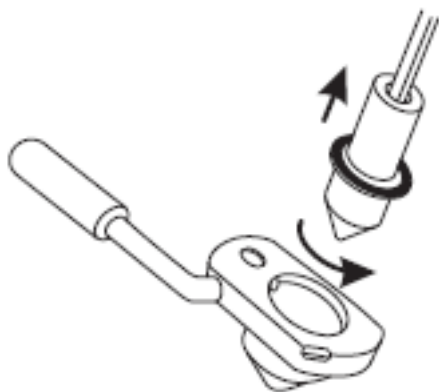

Figure 4: Removing the sample cone with o-ring from the cone gas nozzle using the provided tool.
- Use the provided lifting tool to remove the sample cone and the o-ring from the cone gas nozzle (see Fig. 4)